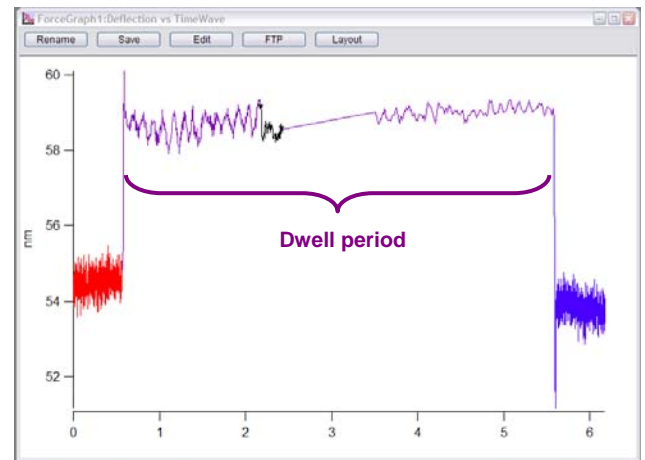

Figure 11.2.2.2: Example of a force distance curve (plotted as cantilever deflection vs. time, with a multi second Dwell towards surface).
② **Dwell Time**- this defines the length of Dwell. Click the 'Use' checkbox to increase Dwell rates- maximum dwell time is 500s (8.3 minutes).
③ **Dwell Rate**- This is the rate at which data is collected during a dwell- i.e., maybe the experiment calls for more or less points to be collected during this time. It must be activated with the Use checkbox to the left of the setvar.
④ **Dwell Filter**- this is a low pass filter that can clip from 1 Hz to 1kHz; often not a default parameter- must be activated in the setup menu of the panel.
• An example of a force distance curve (plotted as deflection vs. time) with a multi second dwell setting is seen in Figure 11.2.2.2.
② **SAMPLING/ BANDWIDTH OPTIONS**- The band width (BW) options for the curve collection. Note, to view the BW options (in most version of MFP-3D software), they must be activated to be shown using the 'Setup' button.
⑤ **Sample Rate**-this is essentially how many points per second that is collected during the force curve acquisition (See Figure 11.2.2.3A for example).
⑥ **Low Pass Filter**- this effectively changes the low pass filter on the signal so you can adjust the amount of signal noise; the lower the frequency, the more data that gets clipped. Use this filter with caution- if small forces must be measured, too small of a filter setting (i.e., < 1kHz) could clip the event of interest. (Figure 11.2.2.3A).